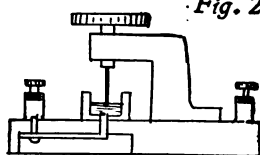

Fig. 3
*Perikon* detectors are made with oxide of zinc and copper-iron sulphide mounted in cups and so arranged that the two substances may be adjusted closer or farther apart. *Electrolytic* detectors are exceedingly sensitive, and are made with a fine platinum wire entering a small receptacle filled with dilute nitric acid (Fig. 3).